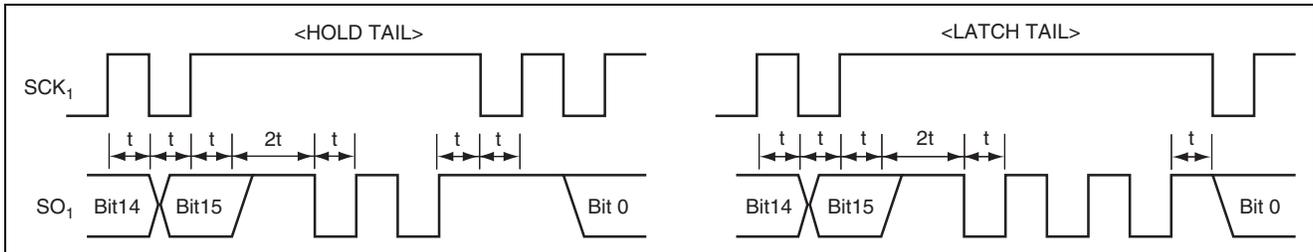

Figure 2.3 Hold and Latch Tail Output Waveforms
- The hold or latch tail can be selected for a tail mark. Figure 2.3 shows output waveforms of the hold and latch tails. Time t in figure 2.3 indicates the period determined by the transfer clock that is set with CKS2 to CKS0 in SCR1.